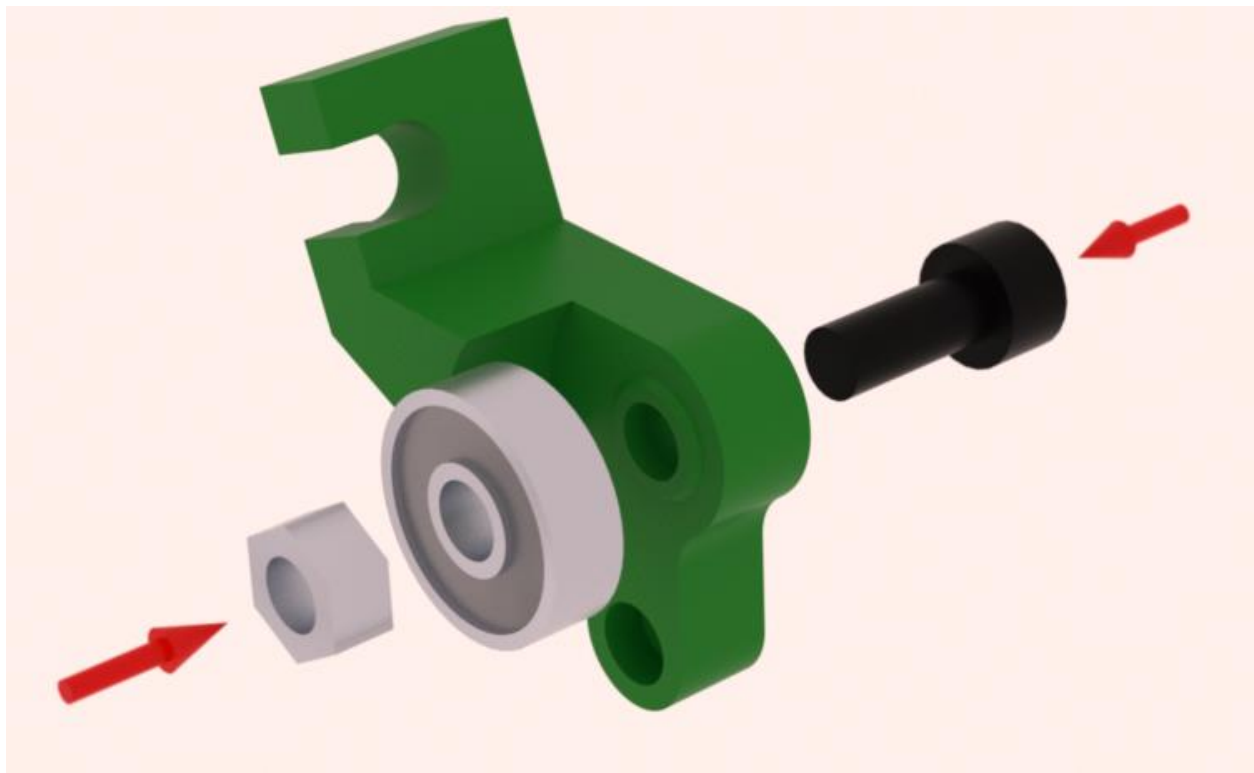

Figure 56: Extruder tensioner flange assembly
- Assemble the extrusion tensioner flange as shown in Figure 56.